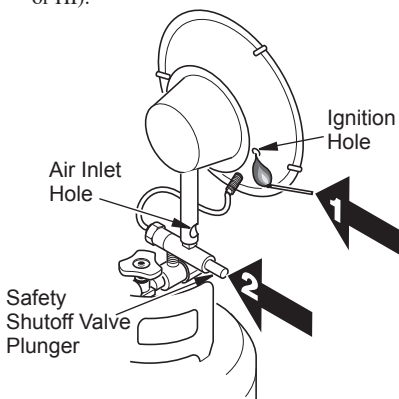

Figure 3
3. Locate ignition hole in underside of burner (see Figure 3). Hold a lit match under ignition hole. Push in the safety shutoff valve plunger (see Figure 3). Burner should light. Mesh screen on burner glows red when lit. After burner is lit, continue holding in safety shutoff valve plunger for 10 to 30 seconds until heater stays lit.